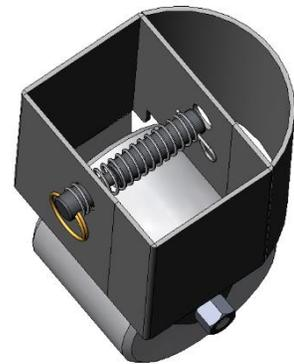

Figure 4 – Locating Pin in Tube Assembly
- (2) Ring clips pre-assembled to hold in pull pin (Fig. 4)